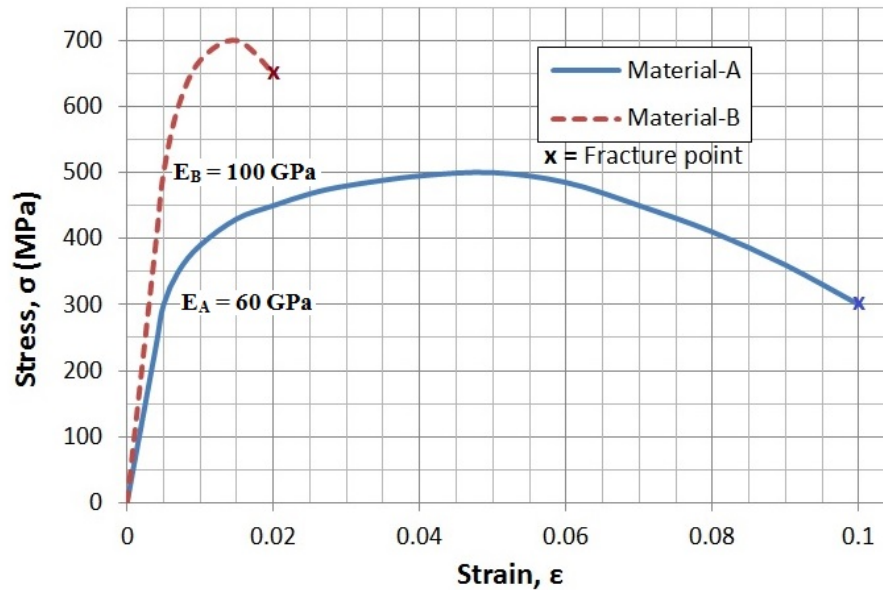

Figure Q1 (a)
1. (a) Figure Q1 (a) shows the stress-strain graph for two materials under tensile test. Their Young's moduli are indicated by E_A and E_B in the graph. Also, materials A and B have elastic limit of 300 N/mm^2 and 500 N/mm^2 respectively. Based on the given data, briefly predict modulus of toughness for both materials and comment on the materials' ability to absorb impact.